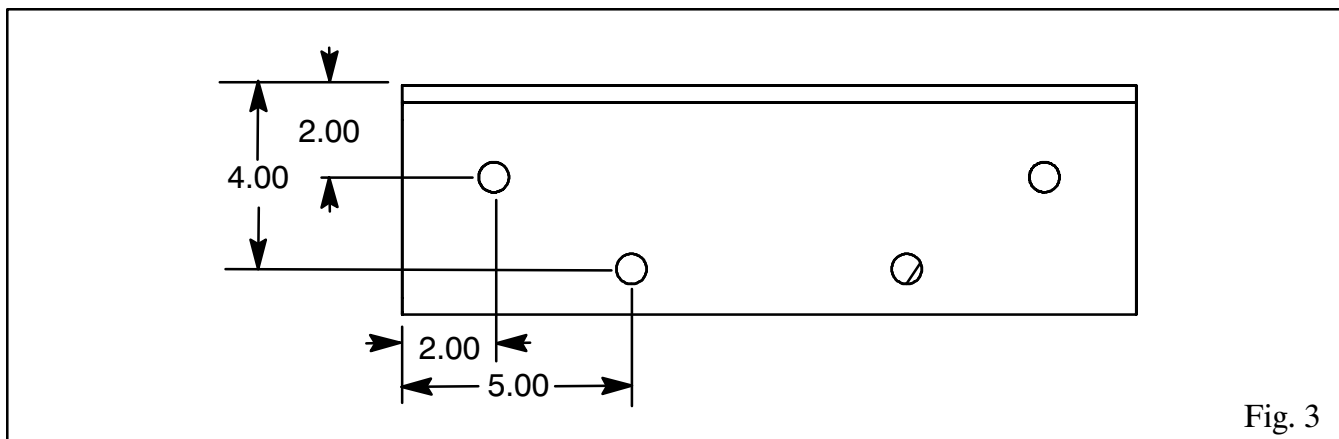

Fig. 3
Bolt the mounting angles to the truck frame using the existing holes. The mounting angles must be attached to the truck frame with a minimum of four (4) 5/8” grade 8 cap screws. If the existing holes are not evenly spread over the whole length, additional holes spaced approximately should be drilled as shown in Figure 3.